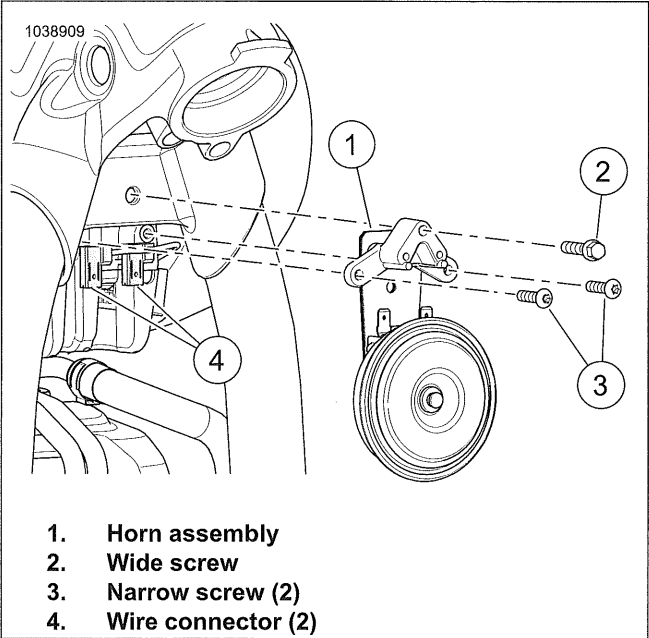

Figure 7-41. Horn
- 1. See Figure 7-41. Remove horn.
- a. Remove narrow screws (3).
- b. Remove wide screw (2).
- c. Remove horn assembly (1).
- d. Disconnect wire connectors (4).
- 1. See Figure 7-41. Install horn.
- a. Connect wire connectors (4).
- b. Position horn assembly (1).
- c. Install wide screw (2). Tighten.